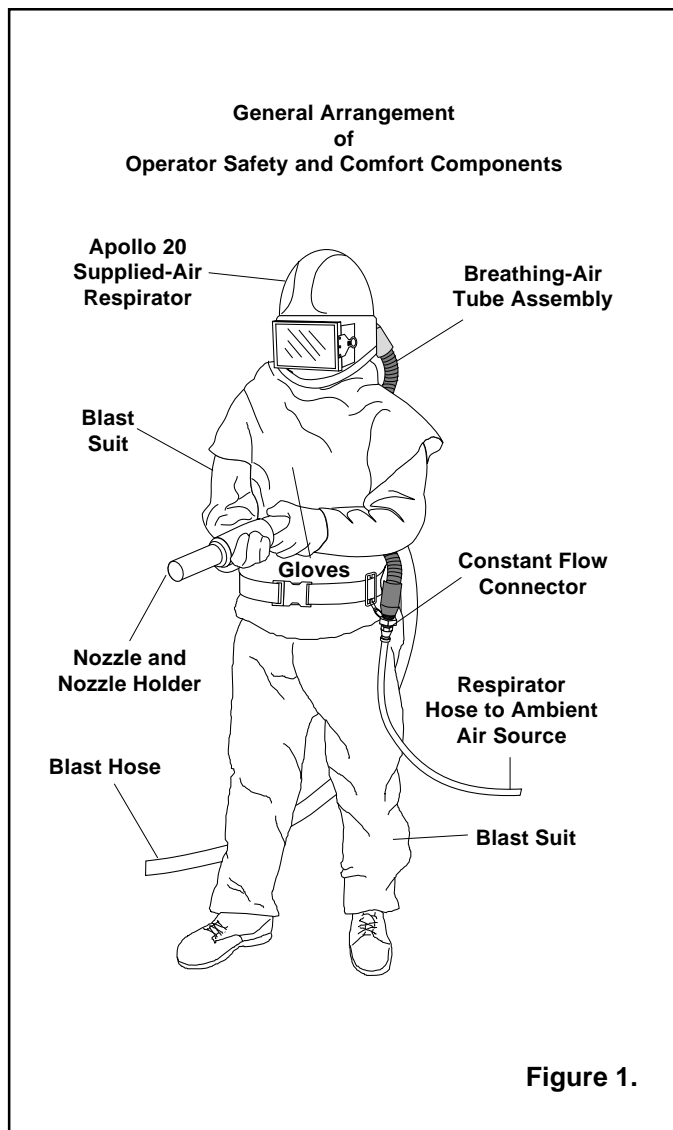

Figure 1.
2.1.2 When all of these components are present, prepare the respirator for operation per Section 3.0. See Figure 1 for a typical arrangement.